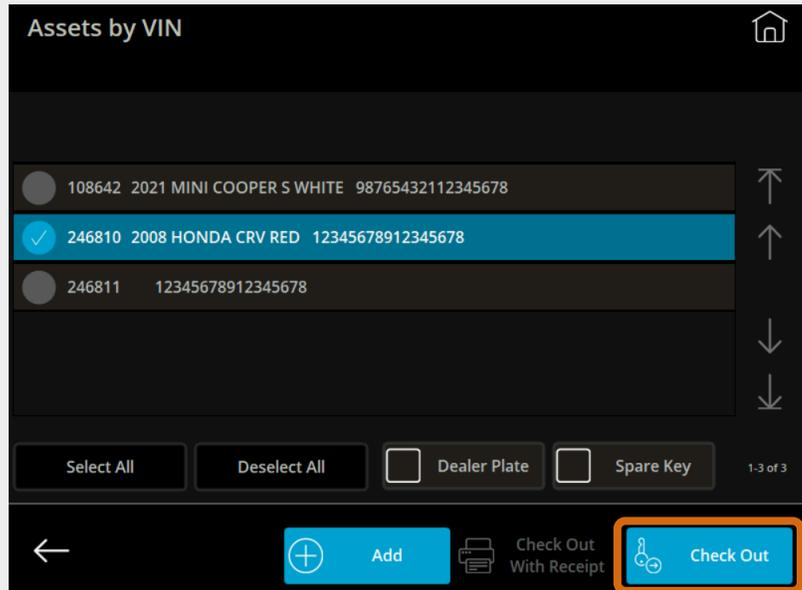

Fig. 56 – Assets by VIN screen with Check Out button indicated
6. Press **Check Out**, as shown in Fig. 56.